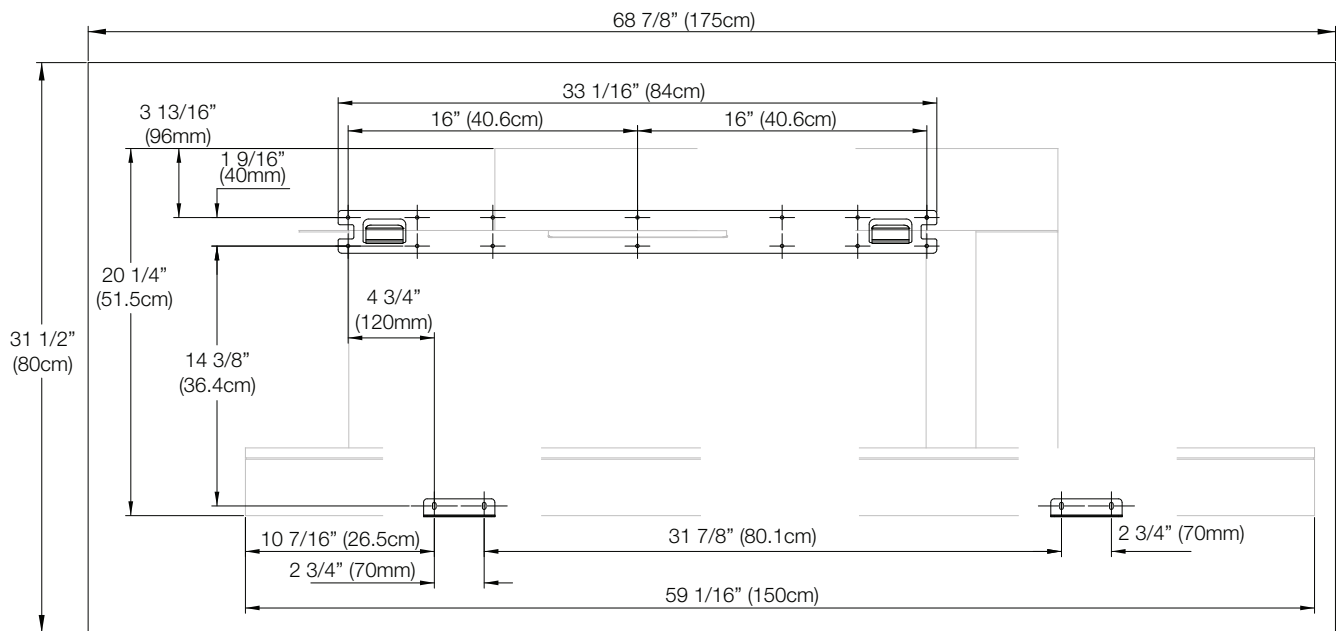

Fig. 2
- Using the wall mounting installation template (**Fig. 2**), mark out the locations of the rear wall bracket and bottom brackets on the wall.